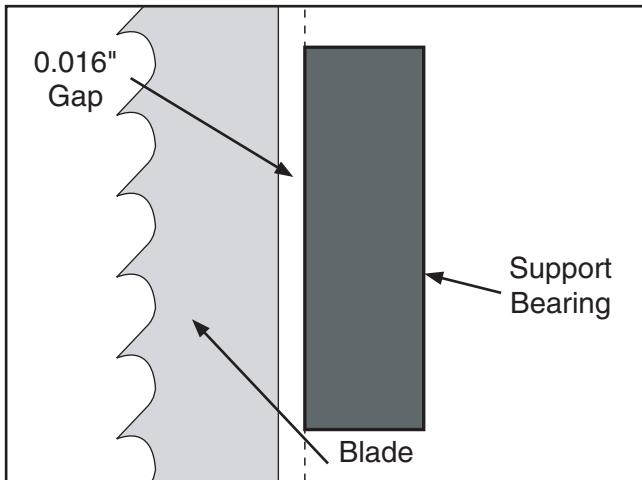
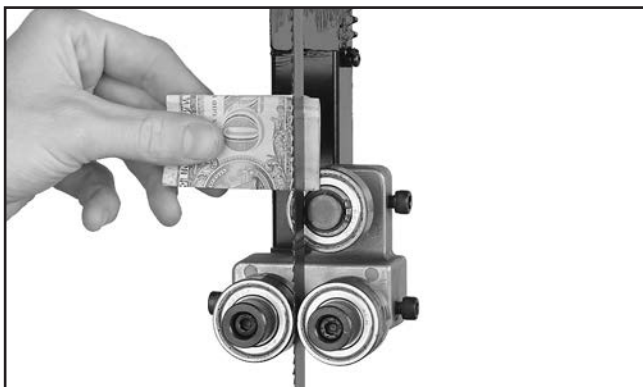

Figure 50. Blade aligned 0.016" away from the bearing edge.
Figure 51. Example of dollar bill folded twice to make an approximate 0.016" gauge.
7. Using a feeler gauge between the support bearing and the blade, position the bearing 0.016" away from the back of the blade, as illustrated in **Figure 50**.
Note: For a quick gauge, fold a crisp dollar bill in half twice (four thicknesses of a dollar bill is approximately 0.016") and place it between the support bearing and the blade as shown in **Figure 51**.
7. Using a feeler gauge, position the bearing 0.016" away from the back of the blade, as illustrated in **Figure 50**, or use a dollar bill, as shown in **Figure 51**.